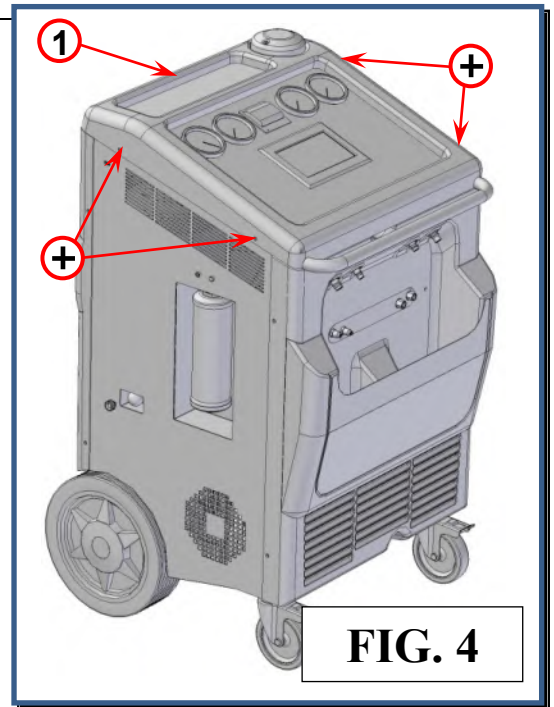

**FIG. 3**
Referring to Figure 3 remove the protections under the refrigerant scales as follows:
- In order to remove the protections under the refrigerant scale the locking knob (ref.1a ref.1b, Fig.3) has to be unscrewed
2. Screwed the knob (ref.1a, ref.1b, Fig.3) until the display signals ZERO availability.